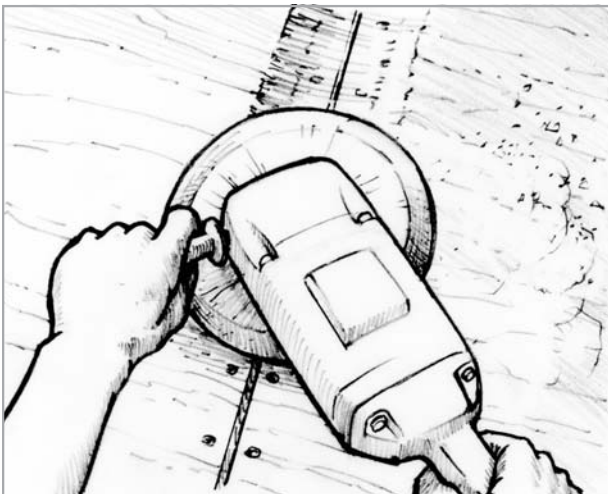

Figure 5-10 Sand a valley along the joint to allow for fiberglass tape.
3. Sand a 4" to 5"- wide valley along the joint with a disc sander to allow the layer(s) of tape to lie below the surface. Make the depression about $\frac{1}{32}$ " deep for each layer fiberglass tape that will fill the joint. Use the sander or a chisel to remove any additional damaged or rotted plywood around the joint. At an edge or chine, use the sander or a router with a roundover bit to round the corner. A $\frac{1}{4}$ " to $\frac{3}{8}$ " radius will allow the glass tape to lie flat on the surface (*Figure 5-10*).